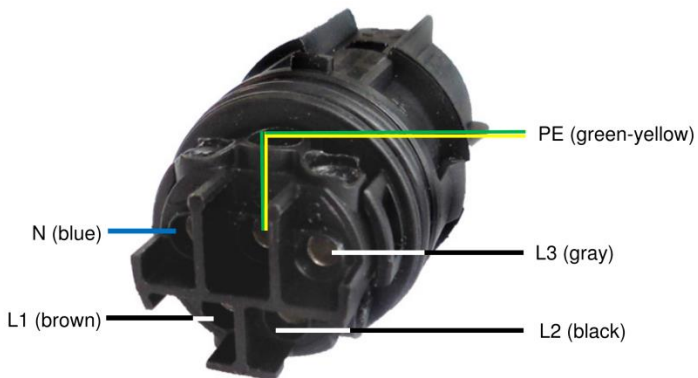

Figure 11: Assignment of screwed connections AC-socket - connection side
- Insert the wires as shown in Figure 11 into the screwed connections of the socket and screw in place.